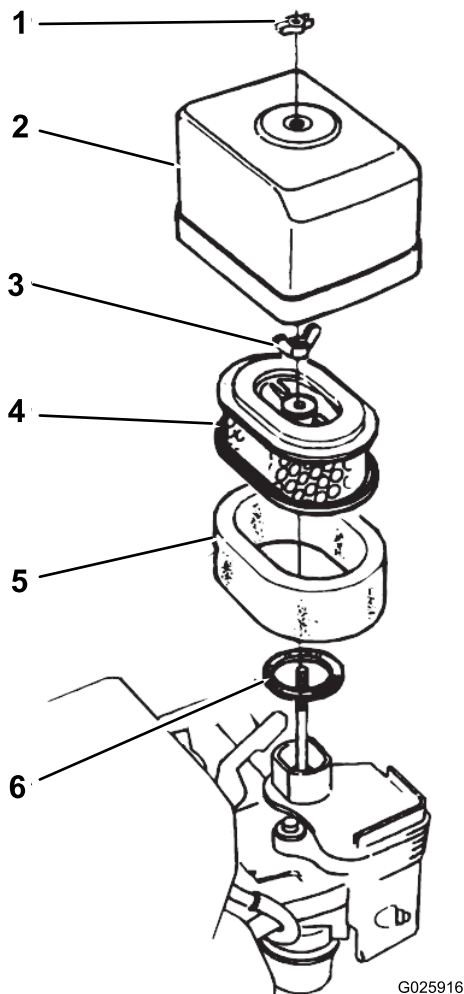

Figure 32
2. Remove the wing nut securing the air-cleaner cover to the air cleaner, and remove the cover (Figure 32).
4. Remove the wing nut from the air filter, and remove the filter (Figure 32).
5. Remove the foam filter from the paper filter (Figure 32).